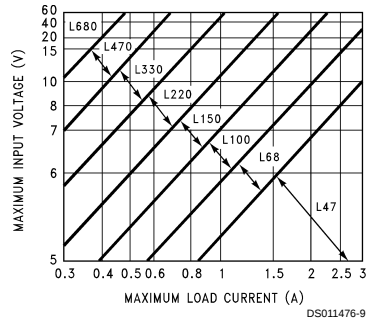
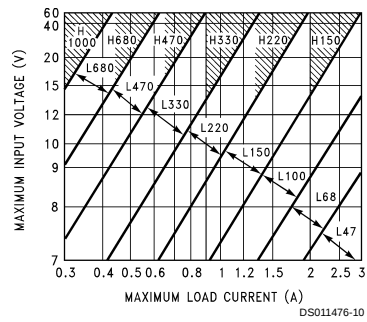
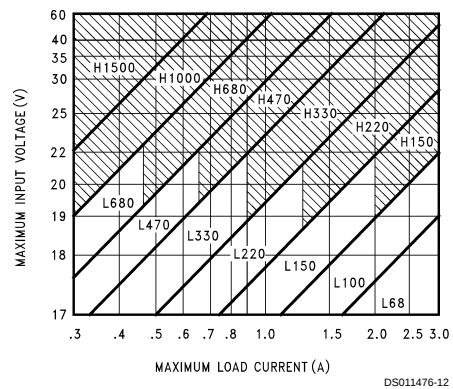
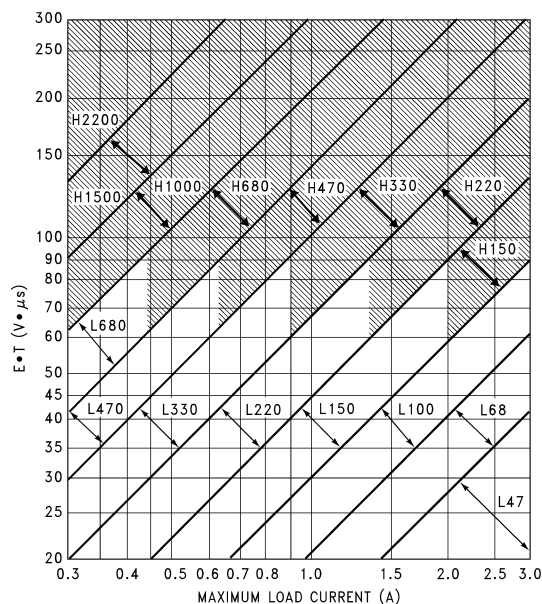

FIGURE 3. LM2576(HV)-3.3
FIGURE 4. LM2576(HV)-5.0
FIGURE 6. LM2576(HV)-15
FIGURE 7. LM2576(HV)-ADJ
Given: V_{OUT} = Regulated Output Voltage (3.3V, 5V, 12V, or 15V) $V_{IN(Max)}$ = Maximum Input Voltage $I_{LOAD(Max)}$ = Maximum Load Current 1. Inductor Selection (L1) A. Select the correct Inductor value selection guide from Figures 3, 4, 5 or Figure 6. (Output voltages of 3.3V, 5V, 12V or 15V respectively). For other output voltages, see the design procedure for the adjustable version. B. From the inductor value selection guide, identify the inductance region intersected by $V_{IN(Max)}$ and $I_{LOAD(Max)}$, and note the inductor code for that region. C. Identify the inductor value from the inductor code, and select an appropriate inductor from the table shown in Figure 3. Part numbers are listed for three inductor manufacturers. The inductor chosen must be rated for operation at the LM2576 switching frequency (52 kHz) and for a current rating of $1.15 \times I_{LOAD}$. For additional inductor information, see the inductor section in the Application Hints section of this data sheet. 2. Output Capacitor Selection (C_{OUT}) A. The value of the output capacitor together with the inductor defines the dominate pole-pair of the switching regulator loop. For stable operation and an acceptable output ripple voltage, (approximately 1% of the output voltage) a value between 100 μF and 470 μF is recommended. B. The capacitor's voltage rating should be at least 1.5 times greater than the output voltage. For a 5V regulator, a rating of at least 8V is appropriate, and a 10V or 15V rating is recommended. Higher voltage electrolytic capacitors generally have lower ESR numbers, and for this reason it may be necessary to select a capacitor rated for a higher voltage than would normally be needed. 3. Catch Diode Selection (D1) A. The catch-diode current rating must be at least 1.2 times greater than the maximum load current. Also, if the power supply design must withstand a continuous output short, the diode should have a current rating equal to the maximum current limit of the LM2576. The most stressful condition for this diode is an overload or shorted output condition. B. The reverse voltage rating of the diode should be at least 1.25 times the maximum input voltage. 4. Input Capacitor (C_{IN}) An aluminum or tantalum electrolytic bypass capacitor located close to the regulator is needed for stable operation.	Given: V_{OUT} = 5V $V_{IN(Max)}$ = 15V $I_{LOAD(Max)}$ = 3A 1. Inductor Selection (L1) A. Use the selection guide shown in Figure 4. B. From the selection guide, the inductance area intersected by the 15V line and 3A line is L100. C. Inductor value required is 100 μH. From the table in Figure 3. Choose AIE 415-0930, Pulse Engineering PE92108, or Renco RL2444. 2. Output Capacitor Selection (C_{OUT}) A. C_{OUT} = 680 μF to 2000 μF standard aluminum electrolytic. B. Capacitor voltage rating = 20V. 3. Catch Diode Selection (D1) A. For this example, a 3A current rating is adequate. B. Use a 20V 1N5823 or SR302 Schottky diode, or any of the suggested fast-recovery diodes shown in Figure 8. 4. Input Capacitor (C_{IN}) A 100 μF, 25V aluminum electrolytic capacitor located near the input and ground pins provides sufficient bypassing.
2. Inductor Selection (L1) A. Calculate the inductor Volt • microsecond constant, $E \cdot T$ ($V \cdot \mu s$), from the following formula: $E \cdot T = (V_{IN} - V_{OUT}) \frac{V_{OUT}}{V_{IN}} \cdot \frac{1000}{F \text{ (in kHz)}} (V \cdot \mu s)$ B. Use the $E \cdot T$ value from the previous formula and match it with the $E \cdot T$ number on the vertical axis of the Inductor Value Selection Guide shown in Figure 7. C. On the horizontal axis, select the maximum load current. D. Identify the inductance region intersected by the $E \cdot T$ value and the maximum load current value, and note the inductor code for that region. E. Identify the inductor value from the inductor code, and select an appropriate inductor from the table shown in Figure 9. Part numbers are listed for three inductor manufacturers. The inductor chosen must be rated for operation at the LM2576 switching frequency (52 kHz) and for a current rating of $1.15 \times I_{LOAD}$. For additional inductor information, see the inductor section in the application hints section of this data sheet. 3. Output Capacitor Selection (C_{OUT}) A. The value of the output capacitor together with the inductor defines the dominate pole-pair of the switching regulator loop. For stable operation, the capacitor must satisfy the following requirement: $C_{OUT} \geq 13,300 \frac{V_{IN(Max)}}{V_{OUT} \cdot L(\mu H)} (\mu F)$ The above formula yields capacitor values between 10 μF and 2200 μF that will satisfy the loop requirements for stable operation. But to achieve an acceptable output ripple voltage, (approximately 1% of the output voltage) and transient response, the output capacitor may need to be several times larger than the above formula yields. B. The capacitor's voltage rating should be at least 1.5 times greater than the output voltage. For a 10V regulator, a rating of at least 15V or more is recommended. Higher voltage electrolytic capacitors generally have lower ESR numbers, and for this reason it may be necessary to select a capacitor rate for a higher voltage than would normally be needed. 4. Catch Diode Selection (D1) A. The catch-diode current rating must be at least 1.2 times greater than the maximum load current. Also, if the power supply design must withstand a continuous output short, the diode should have a current rating equal to the maximum current limit of the LM2576. The most stressful condition for this diode is an overload or shorted output. See diode selection guide in Figure 8. B. The reverse voltage rating of the diode should be at least 1.25 times the maximum input voltage. 5. Input Capacitor (C_{IN}) An aluminum or tantalum electrolytic bypass capacitor located close to the regulator is needed for stable operation.	2. Inductor Selection (L1) A. Calculate $E \cdot T$ ($V \cdot \mu s$) $E \cdot T = (25 - 10) \cdot \frac{10}{25} \cdot \frac{1000}{52} = 115 V \cdot \mu s$ B. $E \cdot T = 115 V \cdot \mu s$ C. $I_{LOAD(Max)} = 3A$ D. Inductance Region = H150 E. Inductor Value = 150 μH Choose from AIE part #415-0936 Pulse Engineering part #PE-531115, or Renco part #RL2445. 3. Output Capacitor Selection (C_{OUT}) $C_{OUT} > 13,300 \frac{25}{10 \cdot 150} = 22.2 \mu F$ However, for acceptable output ripple voltage select $C_{OUT} \geq 680 \mu F$ $C_{OUT} = 680 \mu F$ electrolytic capacitor 4. Catch Diode Selection (D1) A. For this example, a 3.3A current rating is adequate. B. Use a 30V 31DQ03 Schottky diode, or any of the suggested fast-recovery diodes in Figure 8. 5. Input Capacitor (C_{IN}) A 100 μF aluminum electrolytic capacitor located near the input and ground pins provides sufficient bypassing.
The inductor value selection guides in *Figure 3* through *Figure 7* were designed for buck regulator designs of the continuous inductor current type. When using inductor values shown in the inductor selection guide, the peak-to-peak inductor ripple current will be approximately 20% to 30% of the maximum DC current. With relatively heavy load currents, the circuit operates in the continuous mode (inductor current always flowing), but under light load conditions, the circuit will be forced to the discontinuous mode (inductor current falls to zero for a period of time). This discontinuous mode of operation is perfectly acceptable. For light loads (less than approximately 300 mA) it may be desirable to operate the regulator in the discontinuous mode, primarily because of the lower inductor values required for the discontinuous mode.